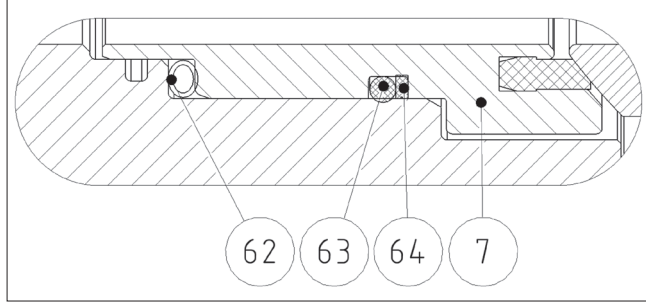

Fig. 14
- Place the back seal (O-ring) (63) into the groove in the seat. See Figure 14.
- Place the back-up rings (64) made of PTFE strips at the side of the O-ring. To ensure that the seam becomes flexible, the strip must have slanted ends.
- Place the spring (62) on the seat (7). Connect the ends of the spring.